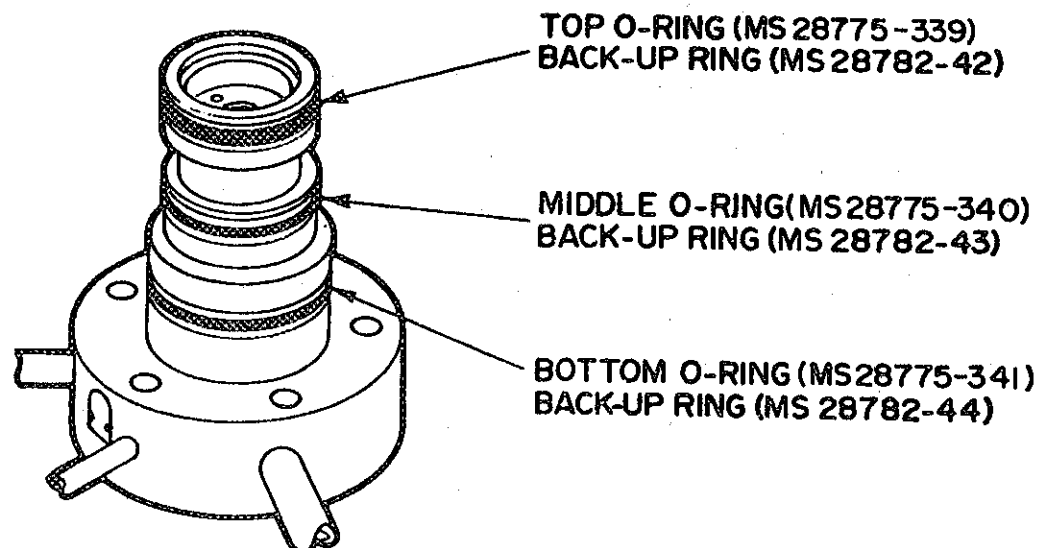

Figure 3-2. Cylinder Base
- Step 11. Install pressure seal assemblies on cylinder base as shown in Figure 3-2.